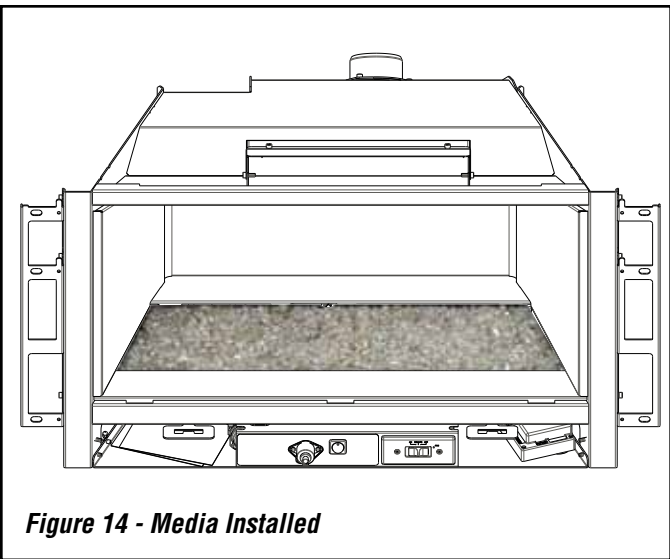

Figure 14 - Media Installed
2. Distribute the measured amount of media in an even layer in the recessed area on top of the burner (shaded area in **Figure 14**).